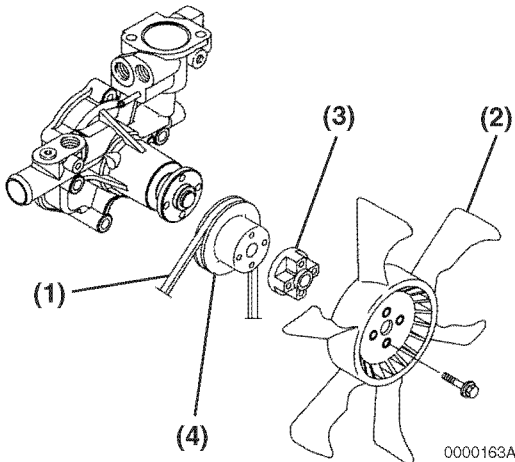

Figure 7-32
13. Reinstall the coolant pump V-pulley (**Figure 7-32, (4)**), spacer (**Figure 7-32, (3)**) (if equipped) and engine coolant fan (**Figure 7-32, (2)**).
14. Reinstall the cooling fan V-belt (**Figure 7-32, (1)**). Adjust it as described in *Check and Adjust Cooling Fan V-Belt on page 5-21*.